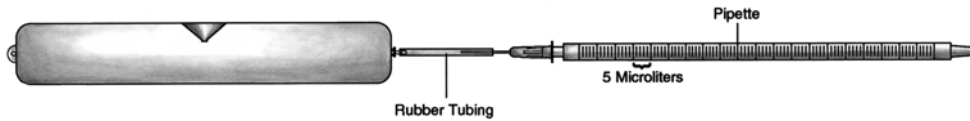

Figure 8: Testing Pump stroke volume with a pipette
6. Insert the pipette into the hub. A meniscus of fluid will be present in the pipette. This should be done on a flat surface with the pipette/tubing assembly horizontal (see Figure 8).